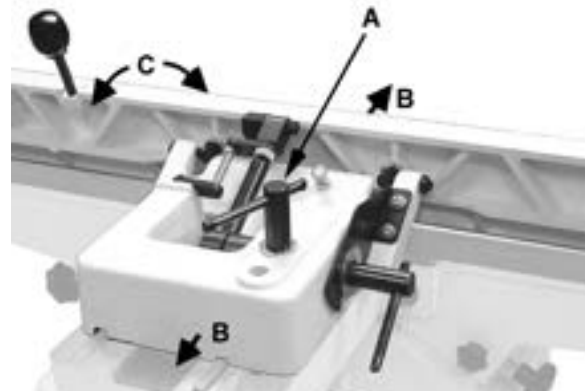

Figure 8-2
1. Loosen locking handle (C, Figure 8-2).
2. Move the lever forward (A, Figure 8-2) to the desired angle down to 45 degrees. Or you can place your reference piece on the table and against the fence and adjust the fence until the angle of the fence matches the bevel of your gauge piece.
3. Tighten locking handle (C, Figure 8-2).
2. Loosen locking handle (C, Fig. 8-2).
3. Flip the 90° stop block (D, Fig. 8-2) out of the way.
Move the lever (B, Fig. 8-2) back to the desired angle up to 135 degrees. Or you can place your beveled reference piece on the table and against the fence, adjusting the fence until the angle of the fence matches the bevel of your gauge piece.
5. Tighten locking handle (C, Fig 8-2).
4. **Important:** When the tilted operation is finished and the fence is returned to 90°, do not forget to flip the 90° stop block (D, Fig. 8-2) back to its original position.
6. Loosen locking handle (C, Fig. 8-2).
7. Flip the 90° stop block (D, Fig. 8-2) out of the way.
8. Move the lever (B, Fig. 8-2) back to the desired angle up to 135 degrees. Or you can place.